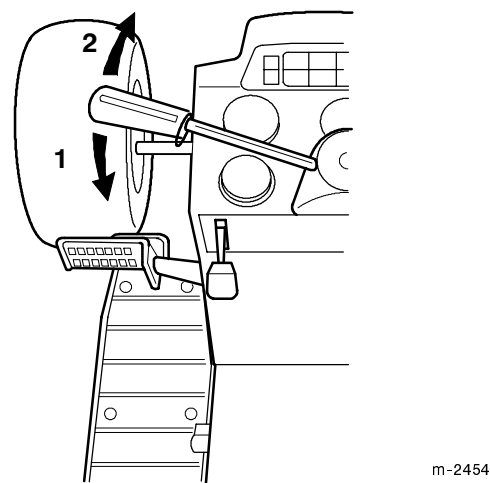

Figure 23
The attachment power lift (Fig. 23) is used to raise and lower attachments.
2. Pull the lift lever in the "UP" direction to raise the attachment lift (Fig. 23). This will lift and hold the snowthrower in the up, or raised position.
2. Push the lift lever in the "DOWN" direction to lower the attachment lift (Fig. 23). This will lower the snowthrower.